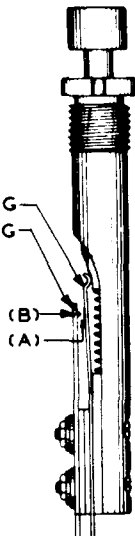

Fig. 6
- * 2.06 Contact Separation: Fig. 6 (A) - There shall be a separation between any pair of contacts normally open or between any pair of contacts that are open when the key is operated of
- * 2.07 Contact Pressure: Fig. 6 (B) - There shall be a pressure between all closed contacts of